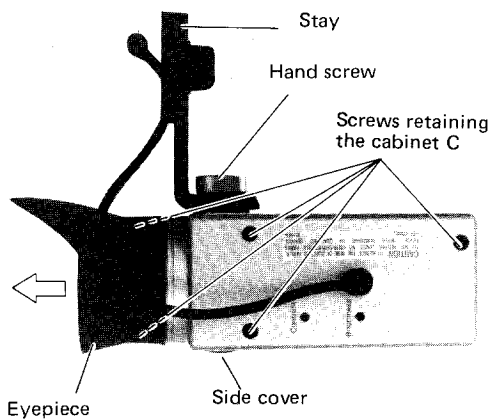

Figure 36.
1. Remove the view finder tilting hand screw (LX-BZ0117 TAFc), and detach the stay (LSTYM0001TA00) from the view finder. (See Fig. 36)
2. Detach the eyepiece (GC5VH7033TASA) and side cover (GC5VH7034TASA), and remove five screws (XUASB 30P12000) from the cabinet C (GCABC4788TAKB). Then remove the cabinet C. (See Fig. 36)